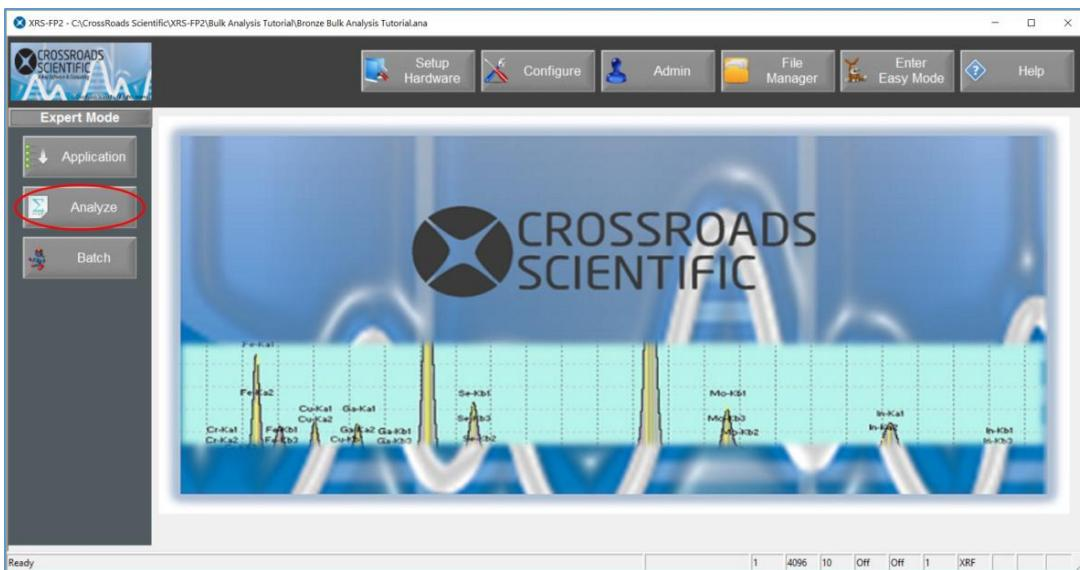

Figure 29. XRS-FP2 Analyze Workflow. From the XRS-FP2 home screen select the analyze button.
22. Now, click on the **Home** button and then select the **Analyze** button (Fig. 29, red circle).